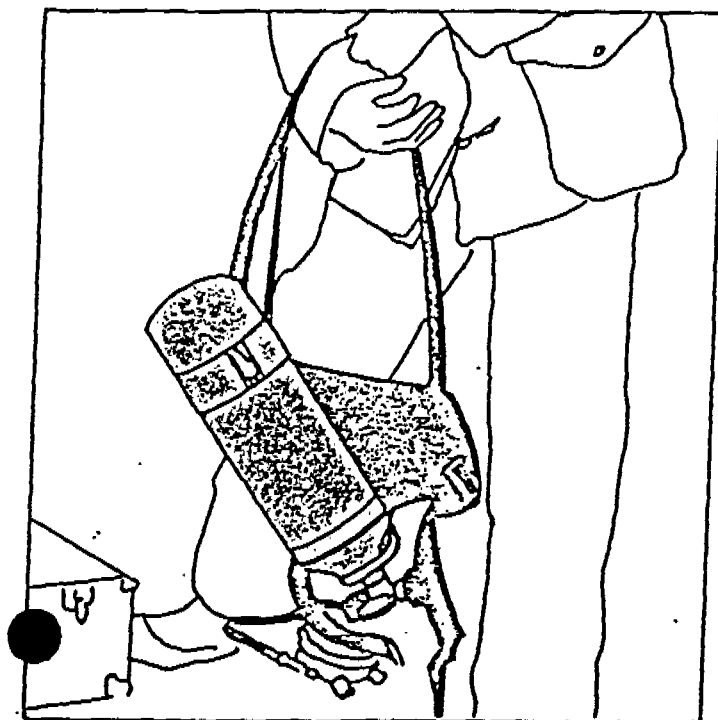

Figure 1A
4. Don the unit by placing your right arm through the right shoulder strap and your left arm through the left shoulder strap (like putting on a coat). (Figures 1A and 1B).